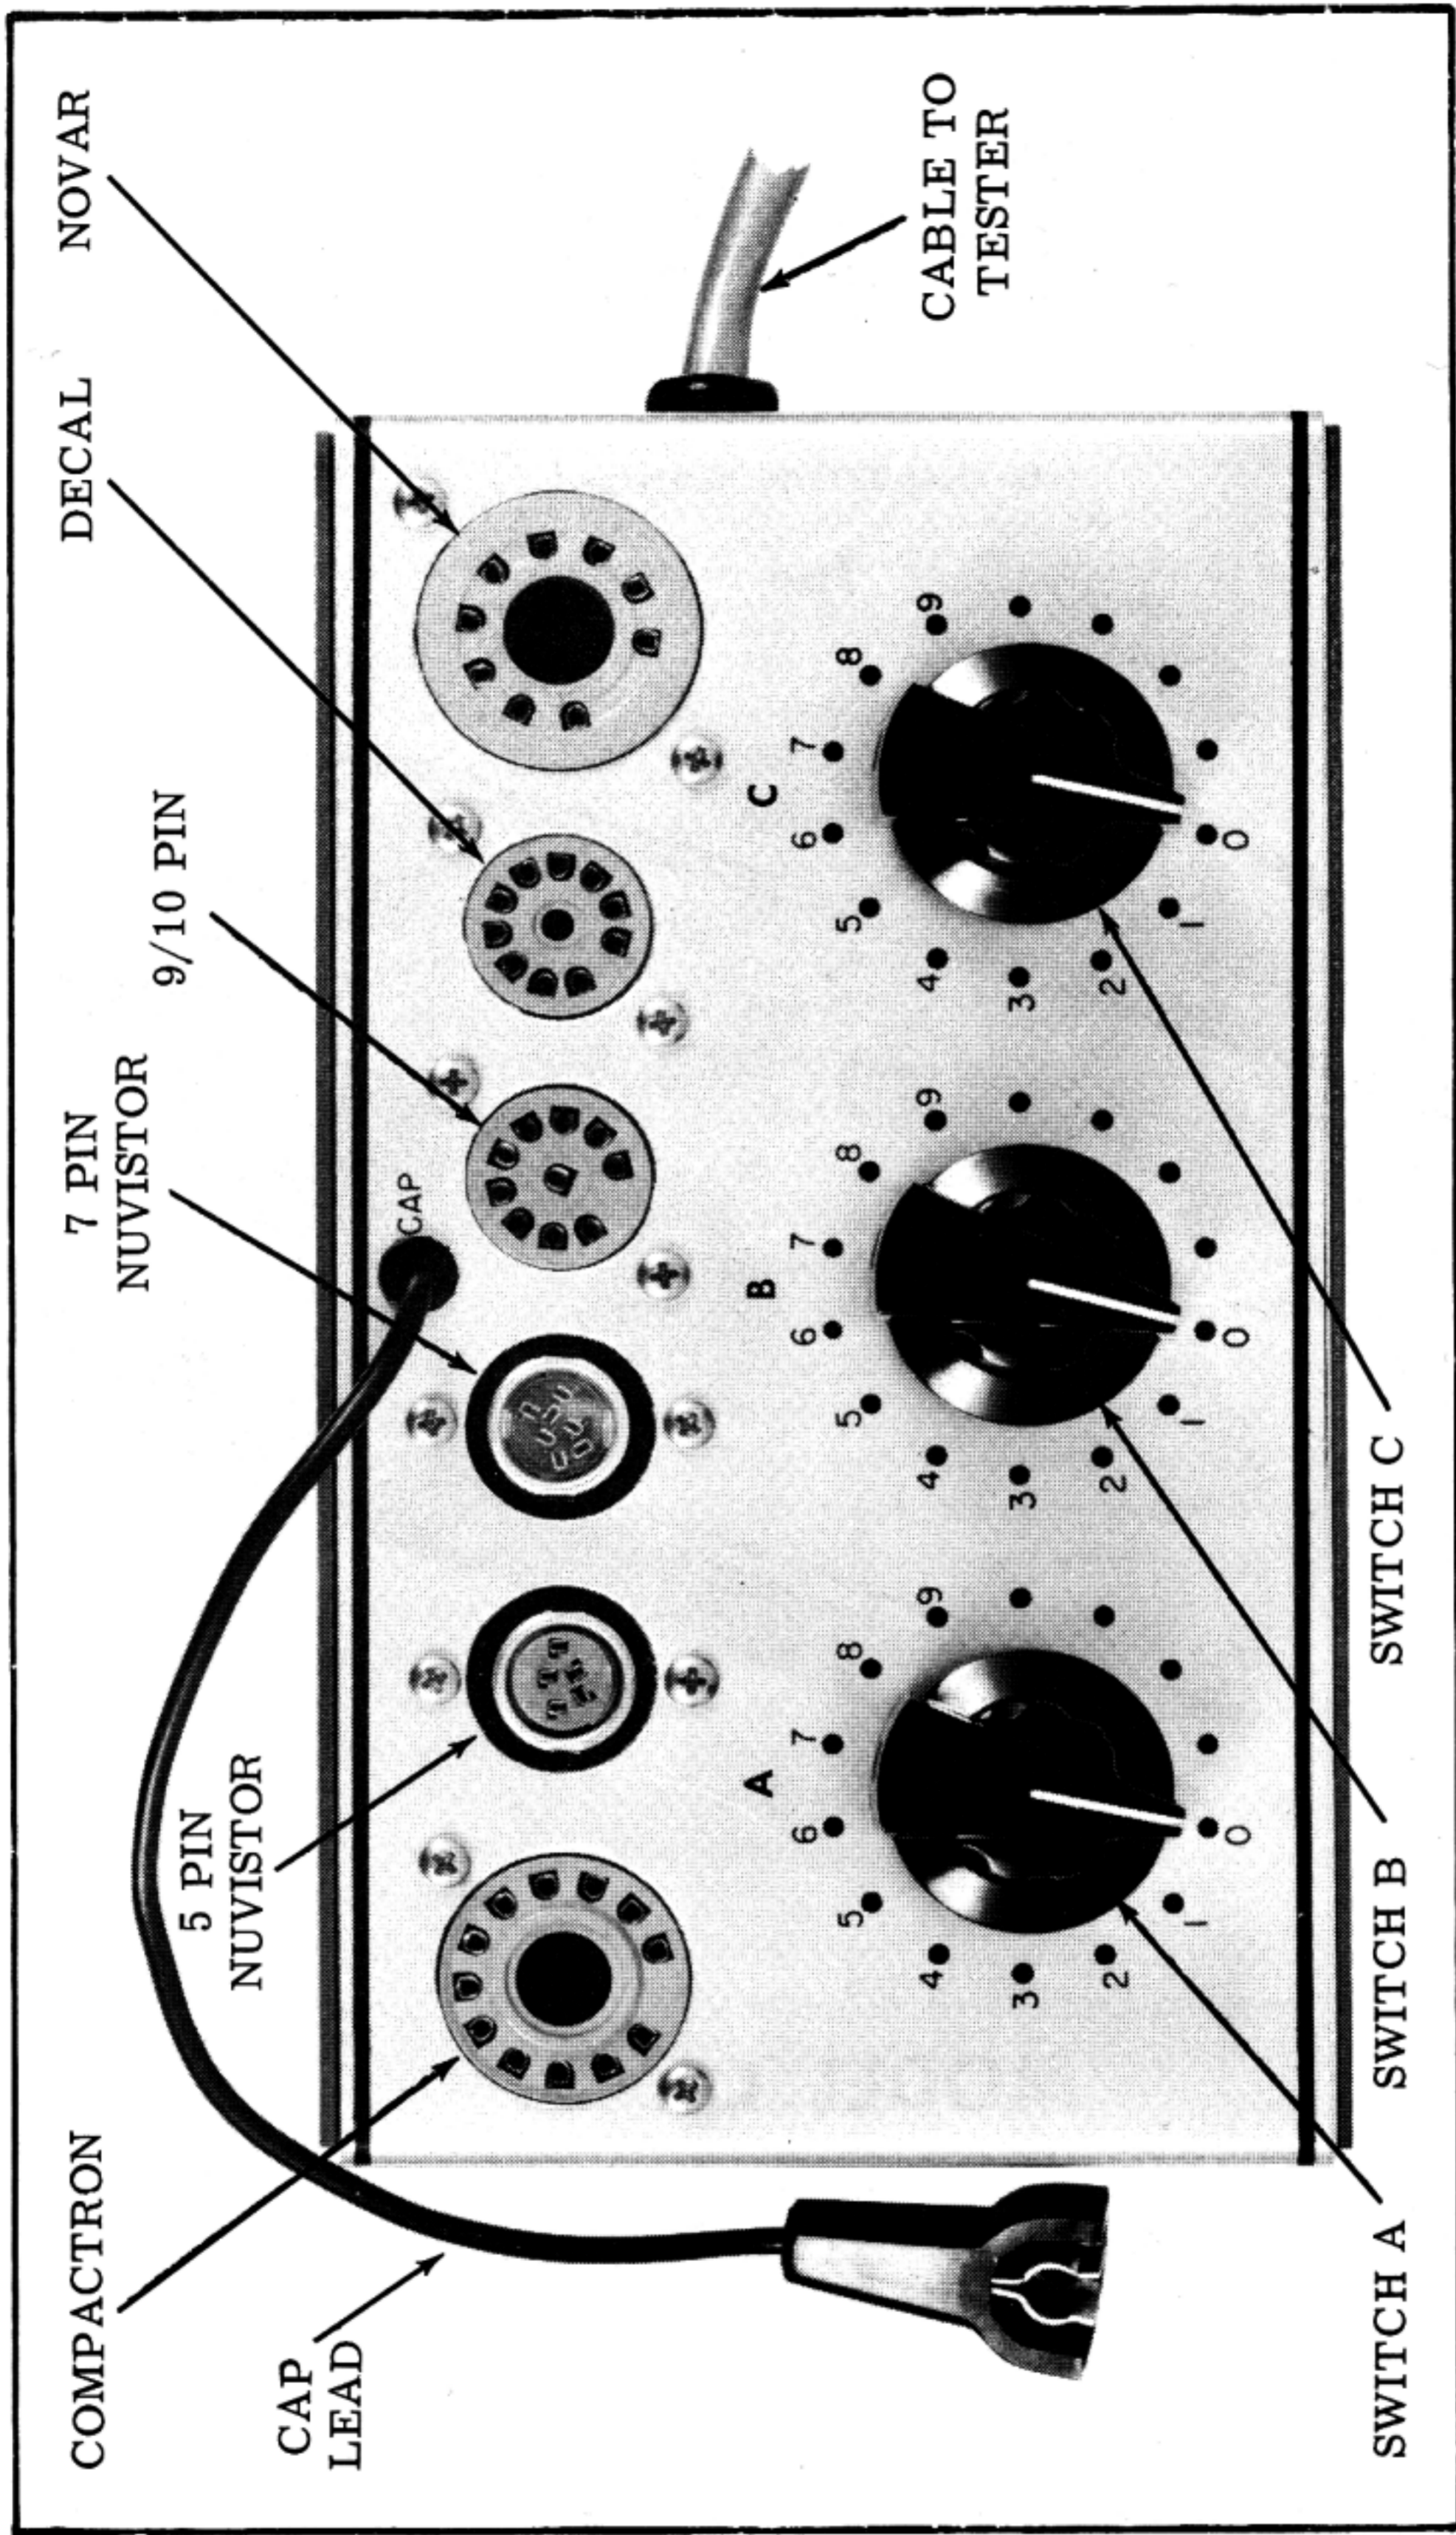

Figure 1. Top Panel Controls, Tube Sockets, Cap Lead, and Cable (Plug not shown)
The Hickok Model CA-5 Universal Adapter is used in conjunction with Hickok Cardmatic Tube Testers and with Hickok Roll Chart Tube Testers to accommodate the bases of Compactron, Novar, Nuvistor, Decal and 10-pin header tubes for testing purposes. Because of its light weight and small size the Universal Adapter may be conveniently placed directly on the top of any Hickok tube tester. The top panel controls, tube sockets and connecting cables are as follows: (see figure 1)
- d. A test plug and cable connected to the adapter for insertion into the Noval test socket of the particular tester being used. This plug has a top cap connection. A portion of the cable but not the plug is shown in figure 1.